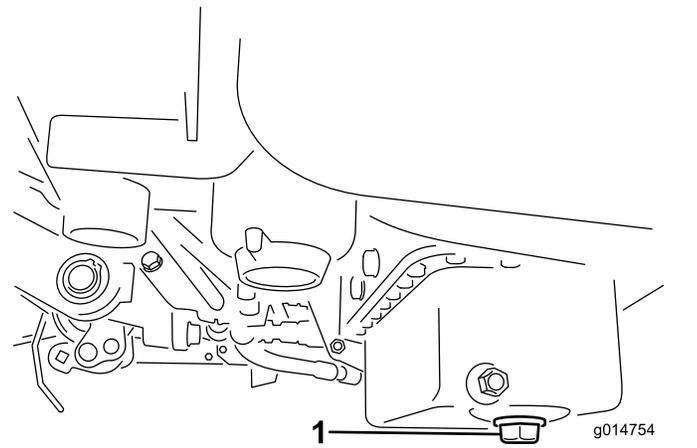

Figure 33
1. Remove the drain plug and let oil flow into a drain pan. When the oil stops, install the drain plug (Figure 33).